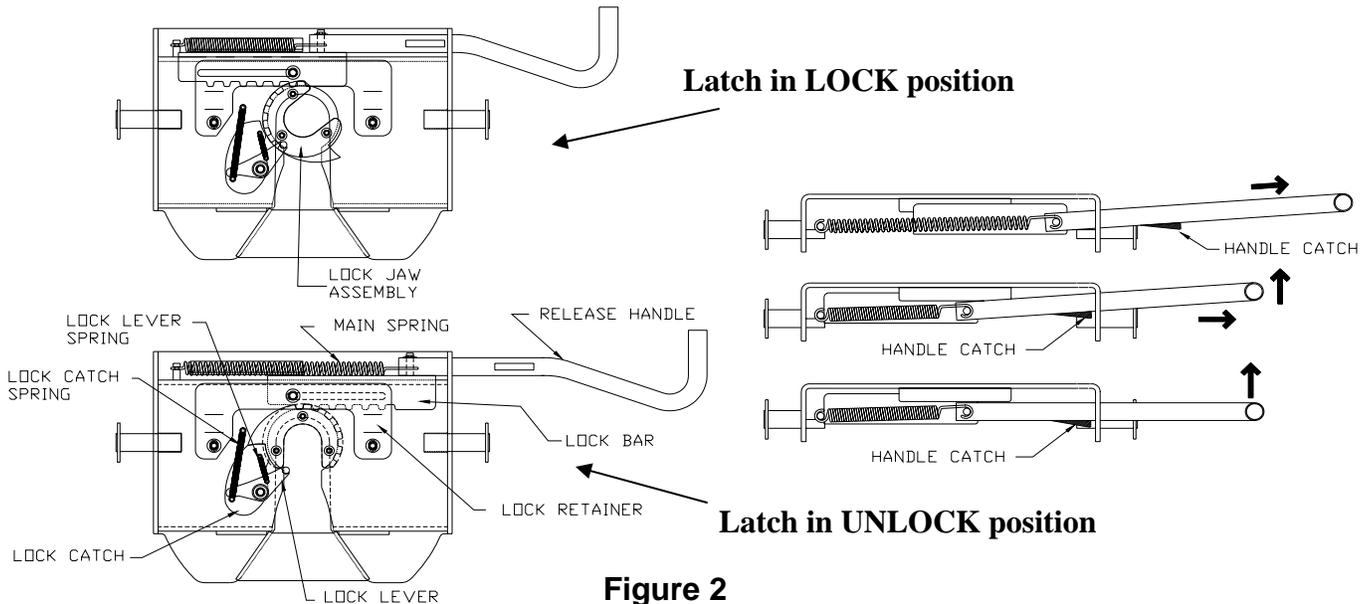

Figure 2
A better understanding of the plates locking and un-locking operation can be obtained by viewing the working parts from the underside of the plate. The 5th Wheel Plate {A1} can be removed and turned over to view the workings of the mechanism. Refer to the drawings in (Figure 2) for the parts identification.
1. To open the locking mechanism, **lift** and **pull** the Release Handle out until the Lock Catch engages the Lock Jaw Assembly. **(Figure 2 pg. 4).**
2. As the trailer king pin moves into the plate, it will contact the Lock Lever, forcing the Lock Catch to disengage the Lock Jaw Assembly, allowing the Main Spring to close the Lock Jaw Assembly behind the King Pin **(Figure 2 pg. 4)**. The King Pin must be fully engaged in the plate slot or the Lock Jaw Assembly will not seat properly, and the Handle Catch would not then engage the inner side wall of the
4. The 5th Wheel latch (**Figure 2**) must be in the open position. Lift and pull out on the Release Handle to open the Lock Jaw Assembly.
6. Make sure the Lock Jaw Assembly is completely seated around the king pin (**Figure 2**).
7. Be sure that the Release Handle (**Figure 2**) has fully returned to the closed position.
3. Open the Lock Jaw Assembly by first lifting then pulling the Release Handle towards you. **(Figure 2)**
I have attempted to unhitch at an angle greater than 16 degrees, truck to trailer and the hitch will not release the King Pin.	Back into the King Pin, then using a probe, push the Lock Lever (Fig. 2) forward until the Lock Catch allows the Lock Jaw Assembly to rotate around the King Pin. Retract the trailer jacks and remove the wheel chocks. Maneuver the truck until it is lined up within the 16 degree limit, see step 1 page 6. Perform unhitching steps 1 through 6 on page 7.